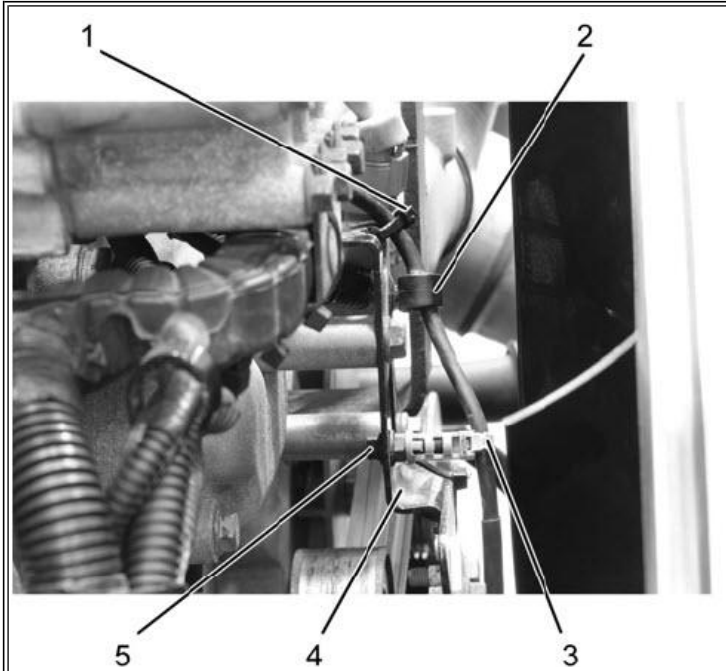

Figure 19 - Fan Clutch Harness Re-route
16. Install M6 x 25 mm bolt (*Figure 19, Item 5*) into fan clutch harness bracket (*Figure 19, Item 4*), then install M6 prevailing torque nut to bolt and tighten nut to 80 lb-in (9 N•m).
17. Loosely secure fan clutch harness with stud cap tie strap (*Figure 19, Item 3*) before securing stud cap tie strap to bolt (*Figure 19, Item 5*). Tighten tie strap when cap is secured to bolt.
18. Remove slack from fan clutch harness, and install harness in upper push pin (*Figure 19, Item 2*). Verify proper clearance between fan clutch harness and fan clutch harness bracket.